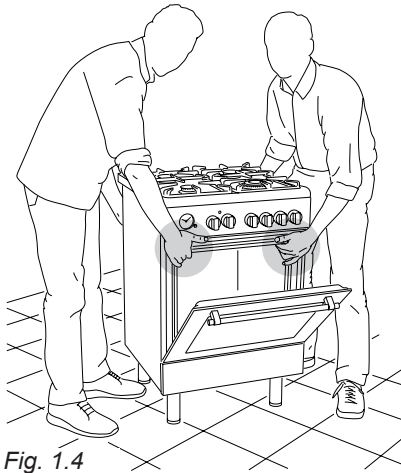
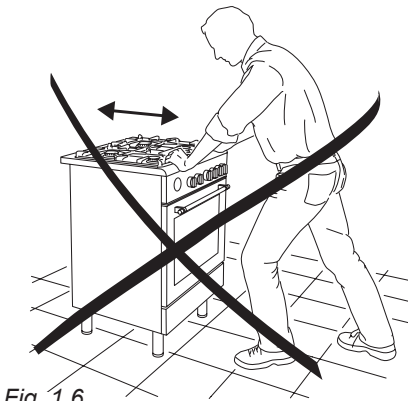

Fig. 1.4
Fig. 1.6
**WARNING:** When raising cooker to upright position always ensure two people carry out this manoeuvre to prevent damage to the adjustable feet (fig. 1.4).
When moving cooker to its final position **DO NOT DRAG** (fig. 1.6). Lift feet clear of floor (fig. 1.4).